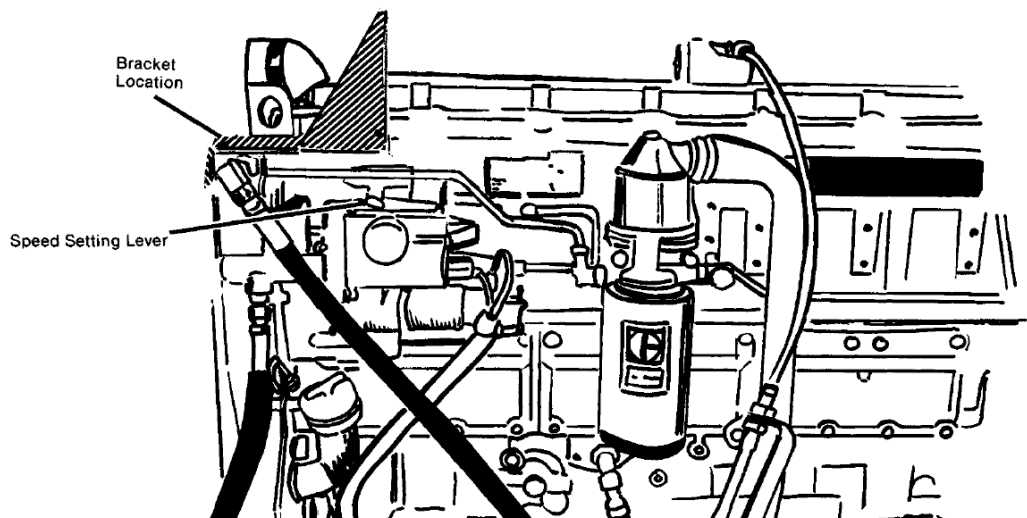
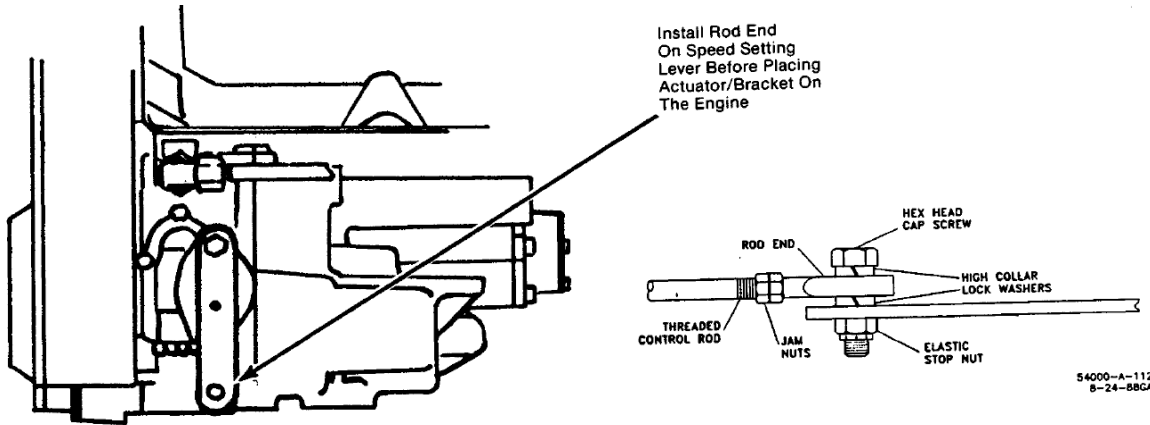

Figure 1. Actuator Bracket Mounted on Caterpillar 3114 or 3116 Diesel Engine
Figure 2. Rod End to Speed Setting Lever
1. Refer to Figure 1 to determine the location of the mounting bracket. The short bent side of the bracket goes over the casting, with the welded portion of the bracket toward the back of the engine and facing up. The two large holes in the bracket will attach to the engine block with 10 mm bolts. Do not attach the bracket at this time. The new linkage to the speed-setting lever should be attached first because the new bracket will make access difficult (see Figure 2).
4. Attach the rod end with the tightened locknut to the engine governor's speed-setting lever with a 0.250-28 screw through a high-collar lock washer, then through the rod end, a second lock washer and through the hole in the speed-setting lever. Torque a 0.250-28 elastic locknut to 80 lb-in (9.0 N·m) (Figure 2). (If more convenient, the 0.250-28 screw may come up through the speed-setting lever, with lock washers on both sides of the rod end.)